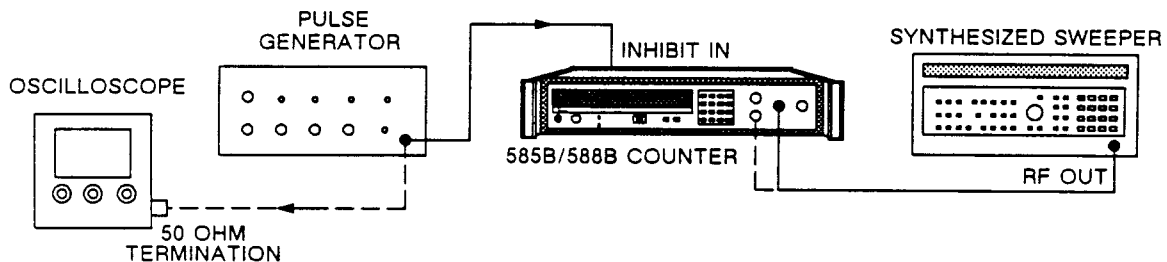

Figure 7-5. Bands 1 and 2 Gate Error Calibration Setup.
3. Set up equipment as shown in Figure 7-5 and described below.